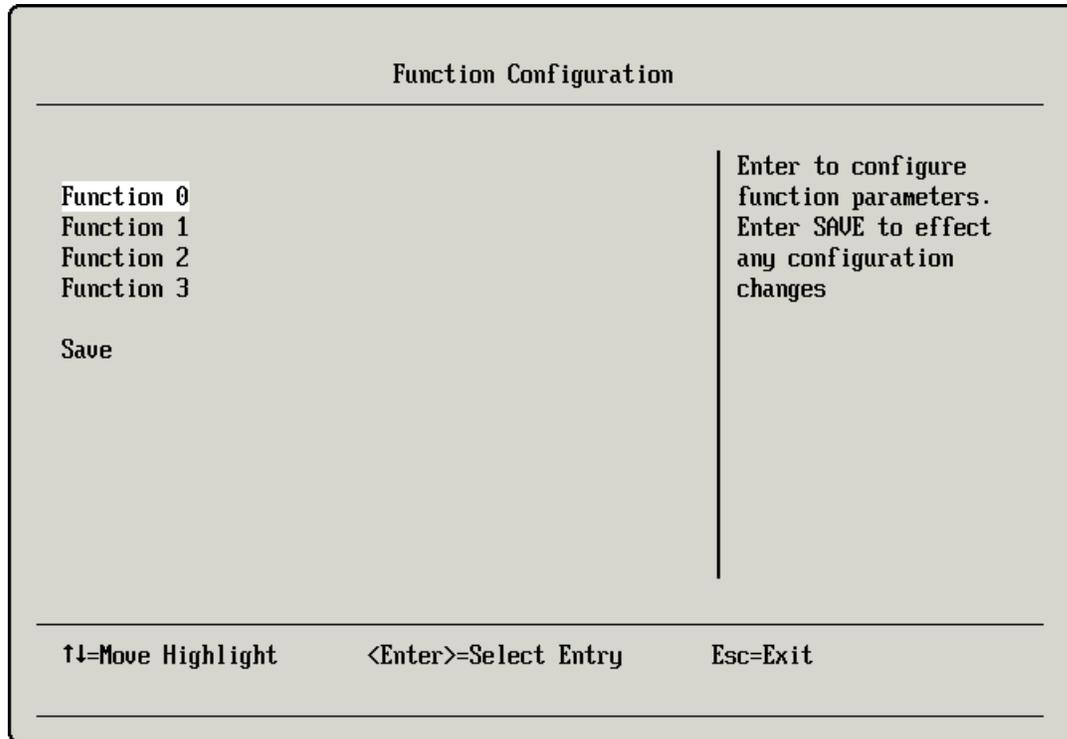

Figure 10-37 Function Configuration panel
7. In the Function Configuration panel (Figure 10-37), configure each of the four vNIC functions. To begin, select **Function 0**, and then press Enter.